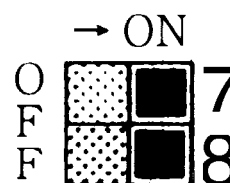

Fig. 5
- 12) Set the Infinity to 'Forced High' combustion by setting both No. 2 and No. 3 dipswitches of the bottom (SW2) set to 'ON'. (fig 5) Ensure maximum water flow.